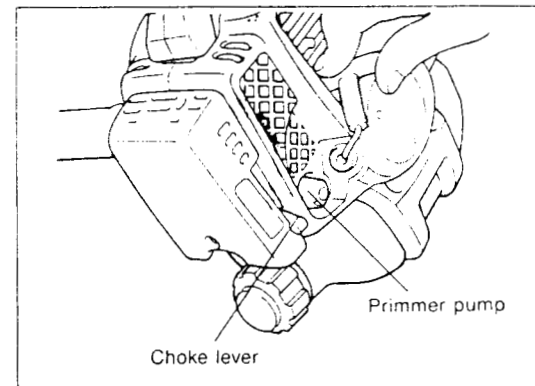

Fig. 19
2. Gently push on the primer pump repeatedly (7 - 10 times) until fuel enters the primer pump (Fig. 19).
3. Close the choke lever fully by moving it to the  position (Fig. 19).
3. Leave the choke lever in the open  position (Fig. 19).